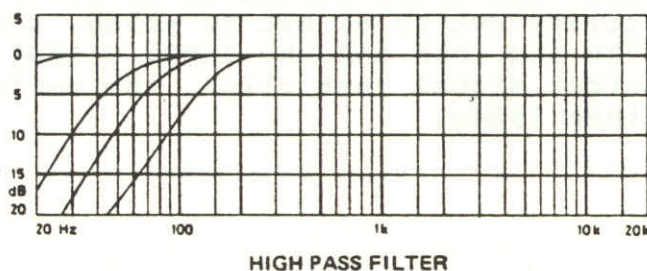

Figure 4
2.5 Push buttons S8 (47), S9 (82) either individually or in conjunction with each other provide 12dB/octave roll off at the following pre-selectable frequencies. Typical response curves are shown on Fig. 4.